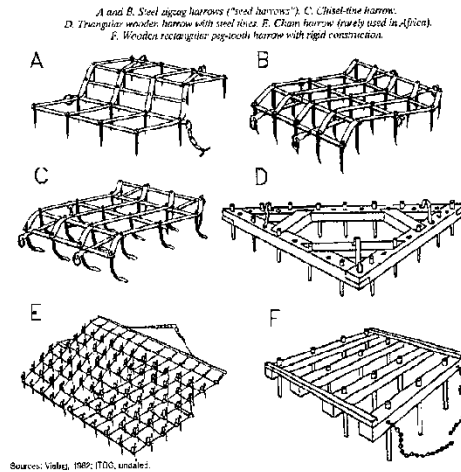

fig 4: The different kinds of Harrow
- **The harrow:** is used for raking, harrowing and levelling the soil. After plowing, you use the harrow (*fig. 4*) to break big clods of earth and to remove unrooted weeds. It can also be used for burying small seeds sown. Harrow the field not more than 2 to 3 times. Use the harrow across the direction of the plow. Do the second harrowing across the first harrowing. Never park your harrow upside down. The tines can wound man and animal.